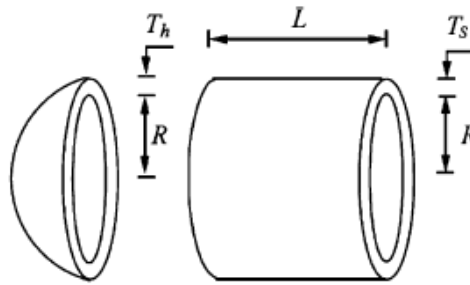

Figure 1. Pressure vessel design.
A cylindrical vessel is capped at both ends by hemispherical heads as shown in Figure 1. The objective is to minimize the total cost, including the cost of the material, forming and welding. There are four design variables: thickness of the shell (T_s), thickness of the head (T_h), inner radius (R) and length of the cylindrical section of the vessel, not including the head (L).